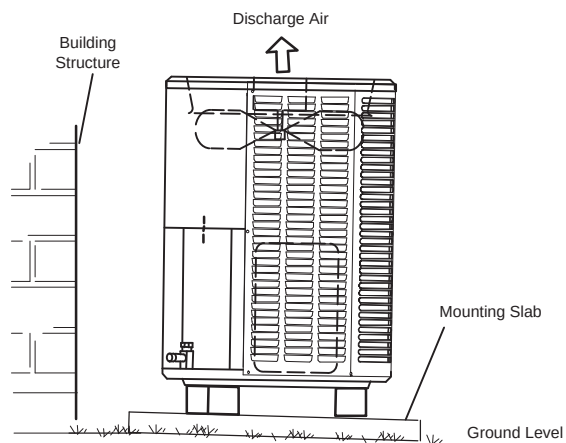

FIGURE 4. Placement and Slab Mounting
- When possible, do not install the unit directly outside a window. Glass has a very high level of sound transmission. For proper placement of unit in relation to a window see the provided illustration in **FIGURE 4, detail A**.
The slab should have a slope tolerance as described in **FIGURE 4, detail B**.